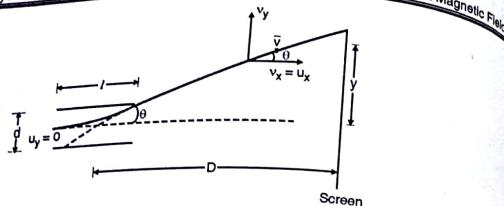

Fig. 7.2.1
In Fig. 7.2.1 we have two plates with length 'l' and separated by a distance 'd'. The upper plate is having positive charge and the lower plate is having negative charge.
- The path of electron will become parabolic till it takes an exist and later move on straight line path with velocity v , (with $u_x = v_x$) and hit the screen at deflection 'y' as shown in Fig. 7.2.1.
\therefore From Fig. 7.2.1